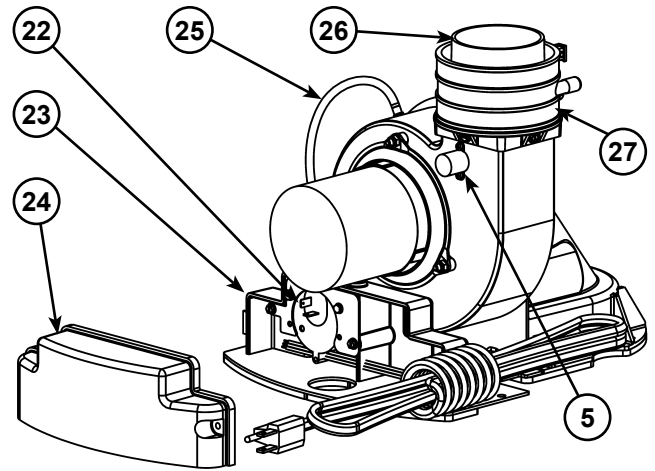

Figure 49
5. Limit Switch (see Figure 49)
21. Blower with Power Cord (see Figure 49)
22. Air Switch (inside box) (see Figure 49)
23. Junction Box (see Figure 49)
24. Junction Box Cover (see Figure 49)
25. Air Tubing (see Figure 49)